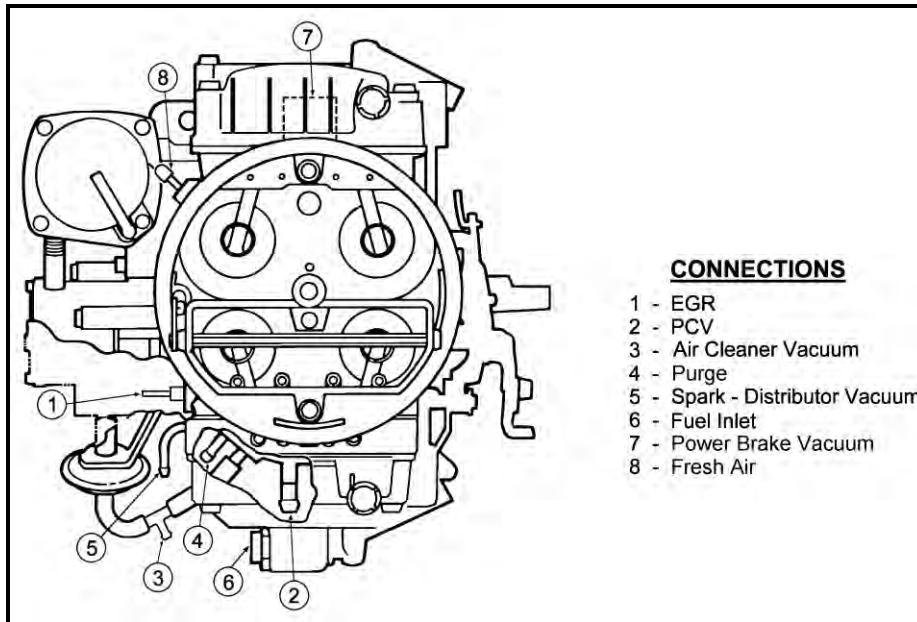

Figure 1
7. Reconnect all vacuum lines that were labeled in the removal of the old carburetor. Use Figure 1 as a guide to locate the connections. The full manifold vacuum source in the front of the throttle body provides vacuum for proper operation of the air cleaner, the air pump diverter valve (if vehicle is so equipped) and/or the temperature sensing valve. The timed spark fitting in the choke side of the primary metering block provides vacuum for operation of the distributor vacuum advance. Connect the hose to the distributor, spark delay valve, and/or temperature-sensing valve. If vacuum for more than one component is needed, plastic "Ts" (available at most automotive parts stores) may be used to complete this installation. Plug any vacuum connections that are not used.
8. Connect the PCV hose to the PCV fitting in the carburetor. See Figure 1. Connect the solenoid wire to the original source wire.